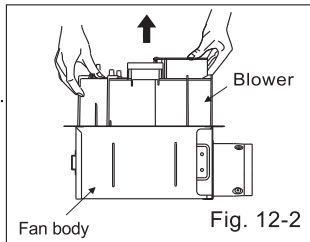

Fig. 12-2
2. Remove blower section. (Fig. 12-2)